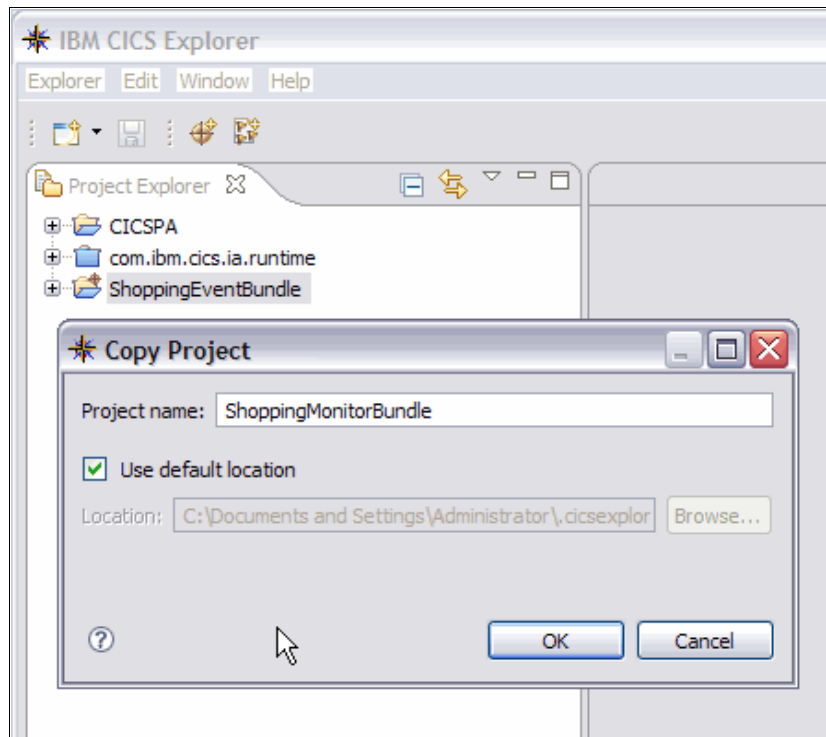

Figure 5-58 Create the ShoppingMonitorBundle
2. Right-click the white space in the Project Explorer window and click **Paste**. Rename the project ShoppingMonitorBundle (Figure 5-58 on page 143).